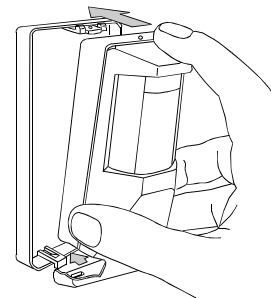

Figure 8. Replacing the Cover
- C. To close the case, insert the legs located on the bottom of the base into their respective slots in the bottom of the cover. Then close by exerting slight upward pressure on the cover (see Fig. 8).